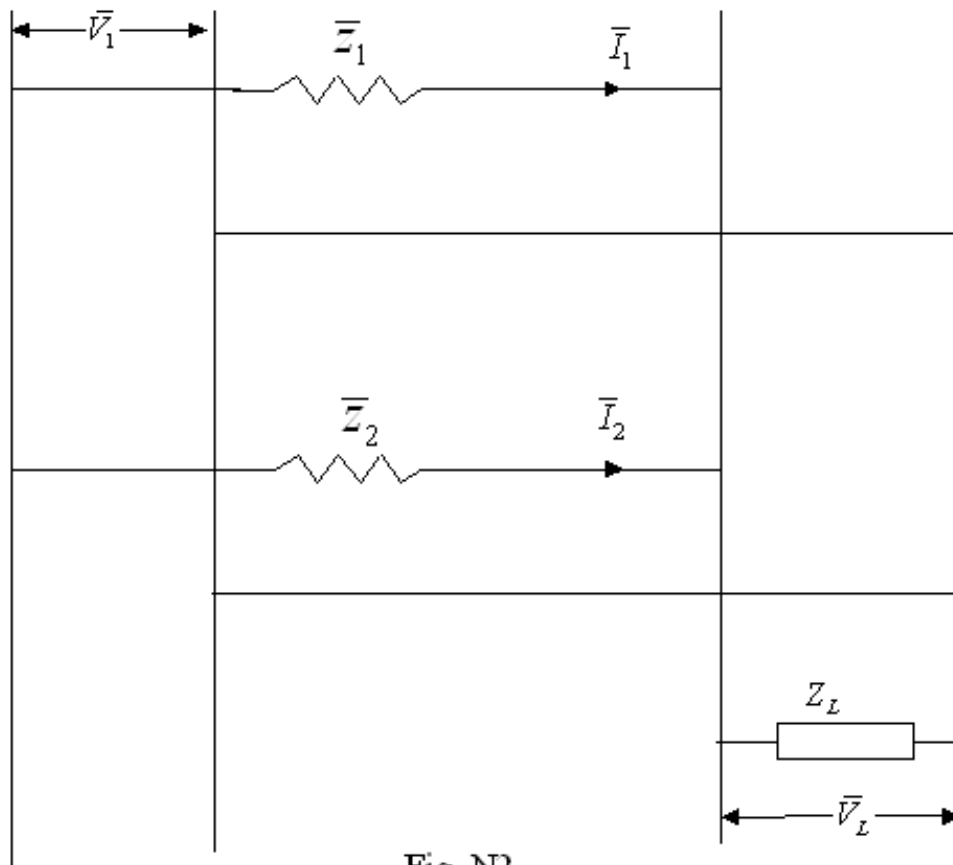

Fig. N2
**Division of load between transformers in parallel. Equal voltage ratios** When the transformers have equal ratios  $E_1 = E_2$  in Fig N1, the equivalent current of the two transformers would then be as shown in Fig N2 on the assumption that the exciting current can be neglected in comparison to the load current.